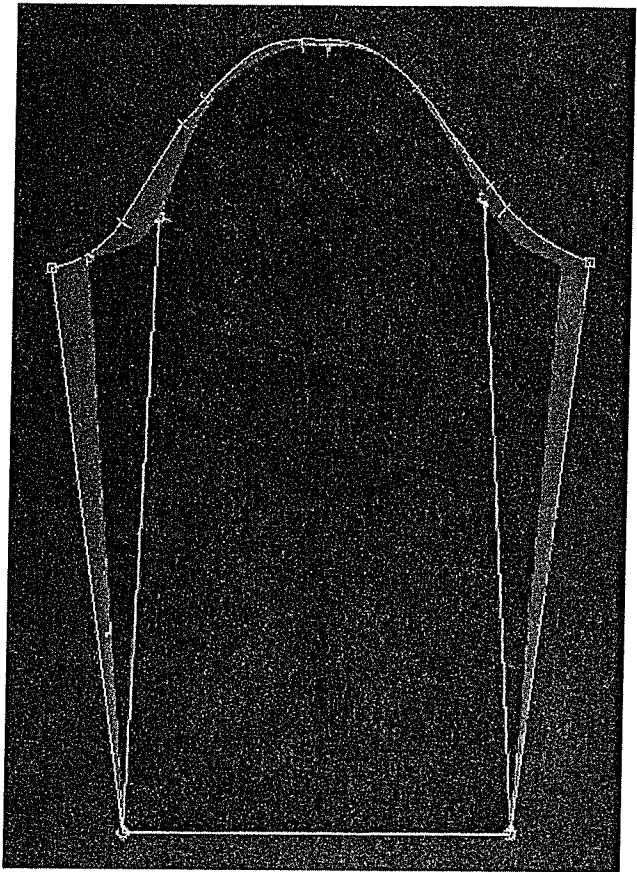

Figure 4.37 Sleeve with lengthened cap.
6. Select *F5>Derived pieces>Join* to reconnect the three sleeve pieces back together. After the first two points of one underarm piece have been selected, the back underarm sleeve piece will be activated; move it to point 3 of the upper sleeve. Repeat to attach the front underarm sleeve piece to the upper sleeve using *F3>Point modification>Reshape* to true or smooth the sleeve cap (Figure 4.37). Hint: Remember to zoom in and out when trueing.